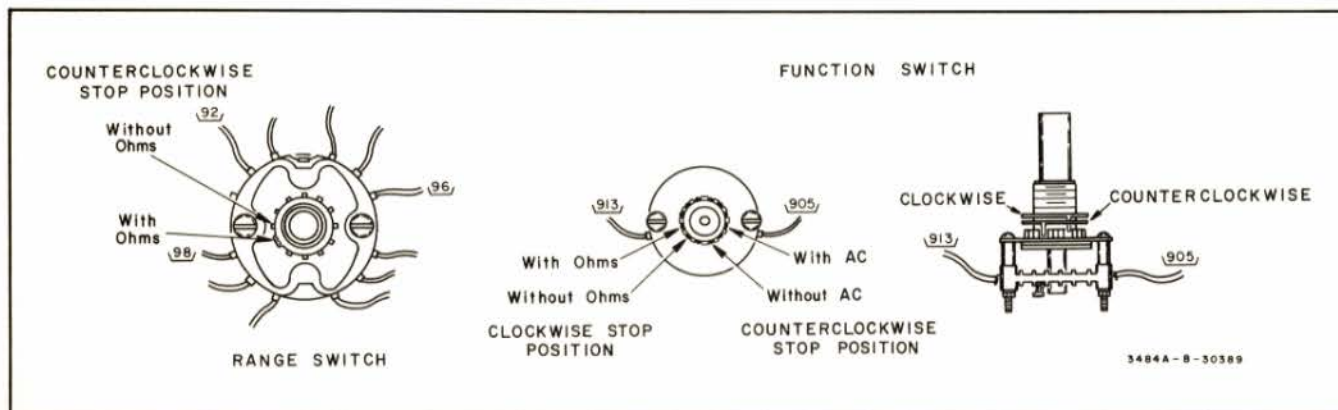

Figure 2-3. Location of Switch Limit Stops.
- f. Rotate the counterclockwise limit stop one position counterclockwise as indicated in Figure 2-3.
- l. Rotate clockwise limit stop one position clockwise as shown in Figure 2-3. Make certain that the counterclockwise stop is in the correct position. If the AC Converter option is also being added, this stop should be rotated two positions counterclockwise.